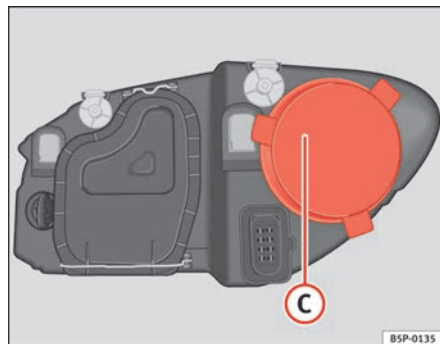

Fig. 183 Main beam headlights
- Remove the cover ⇒ fig. 183 C by pulling on this.